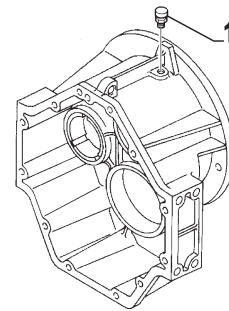

FIG. 4-4
Due to the taper thread, the breather (item 1, Fig. 4-4) need not to be coated with Loctite or equipped with a sealing washer.